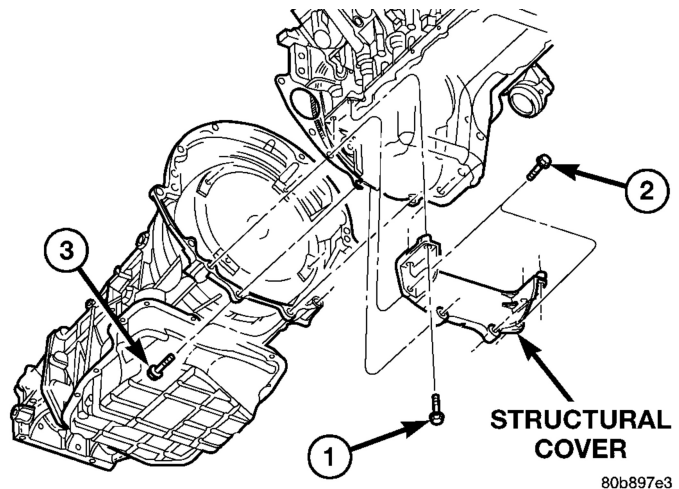

Fig. 19 Structural Cover
(4) Torque the (4) structural dust cover bolts that go into the transmission to 6-11 N-m (50-100 in.lbs.).
(5) Torque the (4) structural dust cover bolts that go into the engine block to 6-11 N-m (50-100 in.lbs.).
(6) Starting with the two rear cover-to-engine bolts, tighten bolts (1) (Fig. 19) to 54 N-m (40 ft. lbs.), then tighten bolts (2) (Fig. 19) and (3) to 54 N-m (40 ft. lbs.) in the sequence shown.